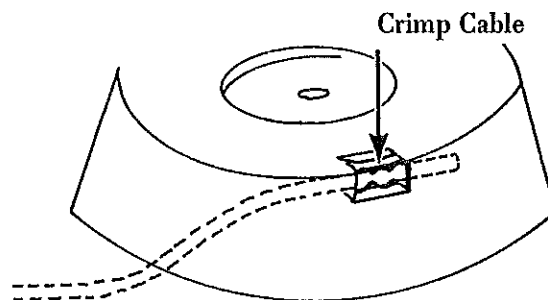

Figure 6
4. Pull cable to cover slot opening. With a punch and hammer, crimp cable to drive mechanism (Figure 6).